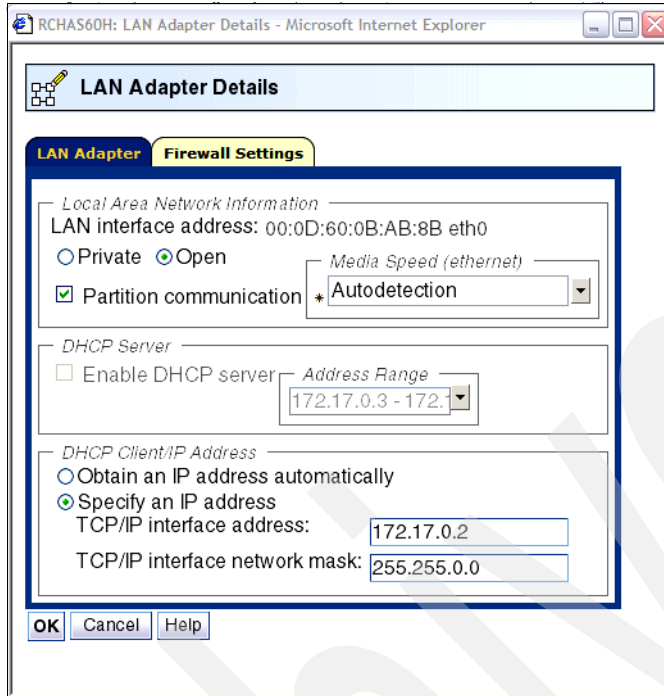

Figure 3-11 Customize Network Setting - LAN Adapters - partition communication
- On the LAN Adapters window (not shown) select the **eth0** LAN Adapter and click the **Details** button. The adapter details for eth0 are shown in Figure 3-11. First click the **Open** radio button within the Local Area Network information area. This enables the check box for Partition Communication. Check (activate) **Partition communication**.